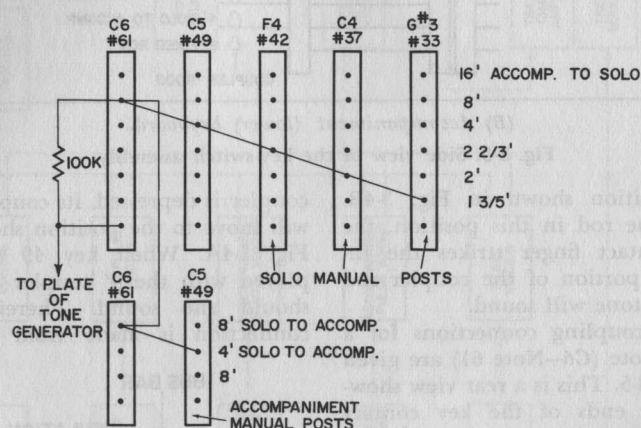

Fig. 3-5. Interconnecting leads between keying fingers for Note 61 (C6).
The coupling connections for a single note (C6—Note 61) are given in Fig. 3-5. This is a rear view showing the ends of the key contact fingers (hereafter called terminals) extending through the rear post on the key-switch assembly in Fig. 3-3. The top post on the left is for coupling the accompaniment generator No. 49 to solo key No. 61. The second terminal from the top is the 8' terminal. Thus, when the Unison Off tab is on, the 8' coupler rod is in the position shown in Fig. 3-4A; and when key 61 on the solo manual is depressed, the key-contact finger will contact the projecting ridge of the coupler rod and connect the 75 volts to this terminal. From this terminal, the path is through the 100K resistor to the plate of the tone generator.
terminal on the Note 49 key-switch assembly to the 8' terminal on Note 61, and on to the oscillator as before. Likewise, key 42 (F4) played at 2 2/3', key 37 (C4) played at 2', and key 33 (G#3) played at 1 3/5', sound Note C6, so they are connected as shown in Fig. 3-5. In addition, keys
61 and 49 on the accompaniment manual sound C6 on the solo manual when the 8' and 4' solo-to-accompaniment couplers, respectively, are turned on so they are connected as shown. Only the connections for C6 (Note 61) are shown in Fig. 3-5. All other key-switch assemblies have similar connections—the terminals are connected to the 8' terminal of the note which should sound when the key is depressed and the corresponding coupler tab is on. Each 8' terminal is then connected to its respective tone generator. Where
Therefore, the top terminal on the rear post for Note 61 (Fig. 3-5) is connected to the 8' terminal of key 49 on the accompaniment manual. The third terminal is connected to the 8' terminal on key 73. The fourth terminal from the top is connected through a 100K resistor to the tone generator for Note 80, and the fifth terminal is similarly connected to the tone generator for